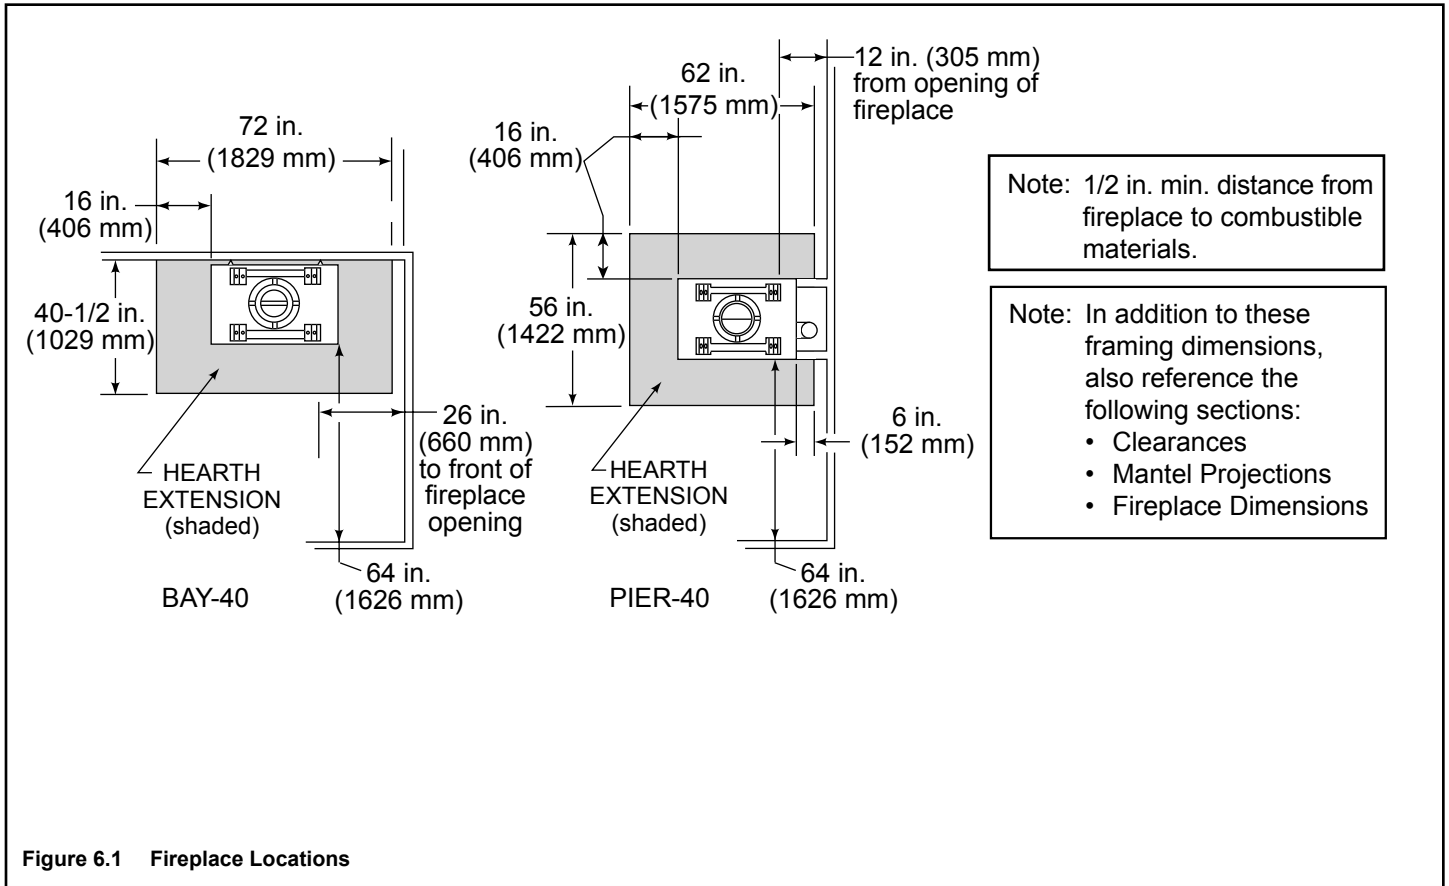

Figure 6.1 Fireplace Locations
- Observe all required air space clearances to combustible materials as shown in Figure 6.1 & 6.2.